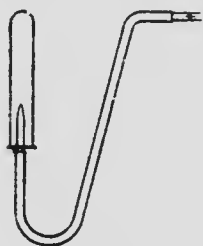
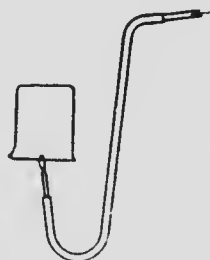

FIG. 29.
FIG. 30.
(2) Uncover a bottle of the gas, mouth up, for a full minute and then test with a burning splint.
(3) Collect a bottle half full of hydrogen and half full of air (or oxygen). Wrap a towel around it and bring the mouth of the bottle into a Bunsen flame. Note the inner sides of the bottle.
(4) Remove the rubber delivery tube from the generator and shake all the water out of it; replace and put the jet on the end, as shown in Fig. 29. Do not place the end of the jet or rubber delivery tube into the pneumatic trough again. **Wrap a towel around the generator and**
collect test tubes of the gas by upward displacement, as shown in Fig. 29, until you find the gas safe, i.e., till it burns quietly. Light the jet, note carefully the color of the flame; hold a clean, **cold, dry** beaker over the flame (Fig. 30) and note what happens.